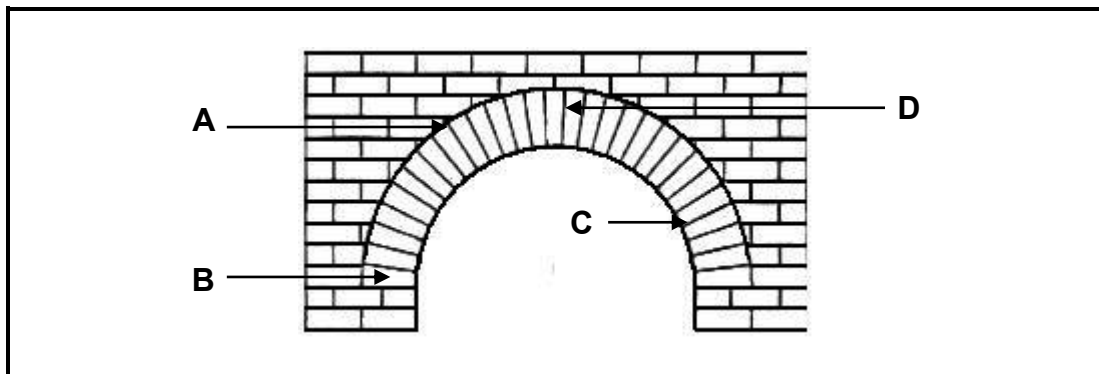

FIGURE 6.7
- 6.7 Answer the following questions on the wall construction in FIGURE 6.7.